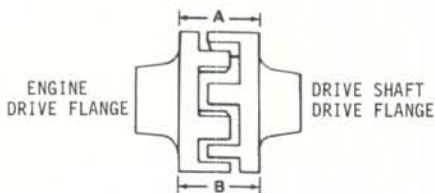

Fig. JS2-34—Distance (B) should not exceed distance (A) by more than 0.6 mm (0.024 in.).
Use a suitable lifting device to hoist engine assembly into vehicle. Make sure coupler is located between engine drive flange and drive shaft drive flange. Install shims into original locations under engine mounts. Lay a straightedge (S—Fig. JS2-33) across top of engine drive flange and drive shaft drive flange. Engine drive flange should be 0-0.3 mm (0-0.012 in.) higher than drive shaft drive flange. Measure distance (A—Fig. JS2-34) and distance (B). Distance (B) should not exceed distance (A) by more than 0.6 mm (0.024 in.). Measure clearance between engine drive flange and coupler and drive shaft drive flange and coupler. Total of the two clearance measurements should not exceed 0.5 mm (0.020 in.). If recommended settings are not measured, then adjust thickness of shims located under engine mounts until recommended settings are obtained. Apply Loctite Lock N'Seal or a suitable equivalent on threads of four engine retaining cap screws and tighten cap screws to 37 N·m (27 ft.-lbs.). Remeasure as previously outlined to verify engine drive flange to drive shaft flange settings are as recommended. Adjust shim thickness if needed.